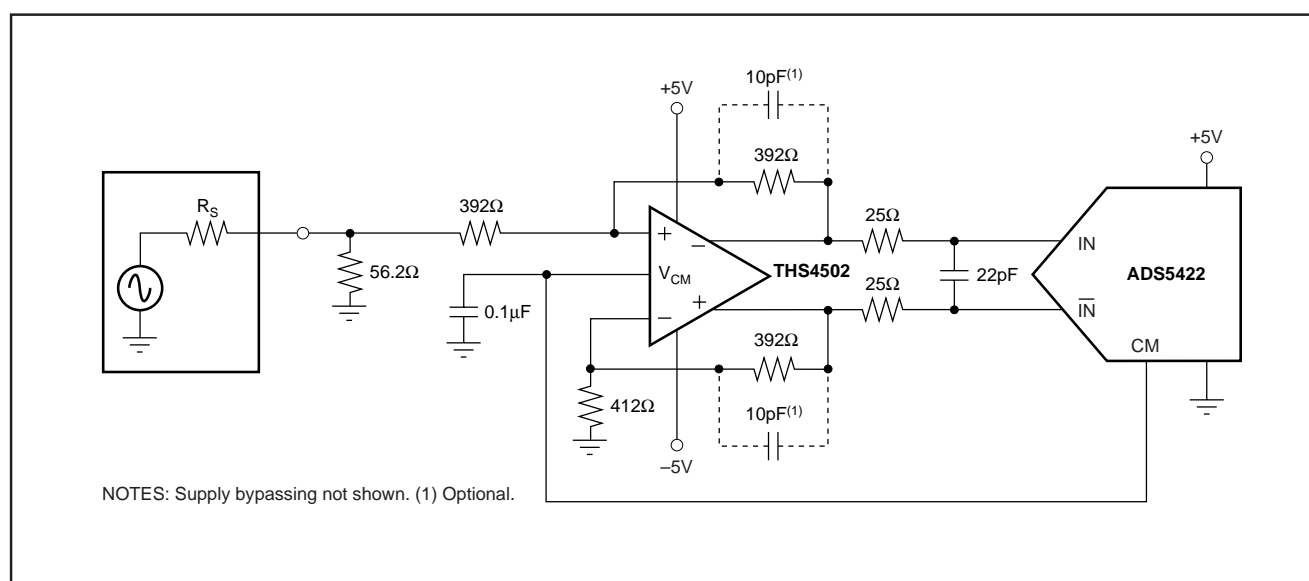

FIGURE 3. Using the THS4502 Differential Amplifier (Gain = 1) to Drive the ADS5422 in a DC-Coupled Configuration.
The following section provides some principal circuit suggestions on how to interface the analog input signal to the ADS5422. Applications that have a requirement for DC-coupling a new differential amplifier, such as the THS4502, can be used to drive the ADS5422, as shown in Figure 3. The THS4502 amplifier allows a single-ended to differential conversion to be performed easily, which reduces component cost. In addition, the V_{CM} pin on the THS4502 can be directly tied to the common-mode pin (CM) of the ADS5422 in order to set up the necessary bias voltage for the converter inputs. As shown in Figure 3, the THS4502 is configured for unity gain. If required, higher gain can easily be configured, and a low-pass filter can be created by adding small capacitors (e.g., 10pF) in parallel to the feedback resistors. Due to the THS4502 driving a capacitive load, small series resistors in the output ensure stable operation. Further details of this and other functions of the THS4502 may be found in its product